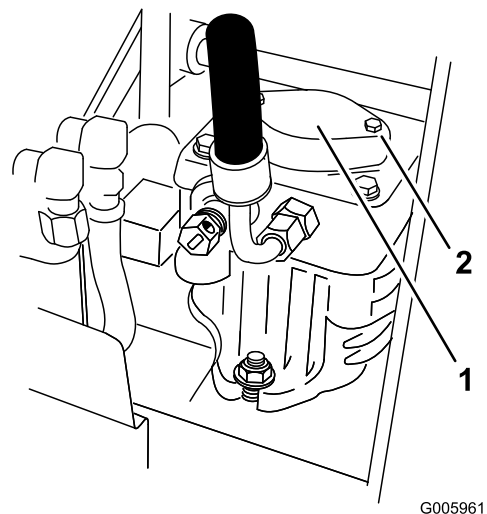

Figure 54
7. To prime the charge pump, loosen two hex socket head screws (Figure 54) 1-1/2 turns only. Make sure engine is not running. Lift charge pump housing upward and wait for a steady flow of oil to flow out from under housing. Tighten the socket head screws on both pumps.